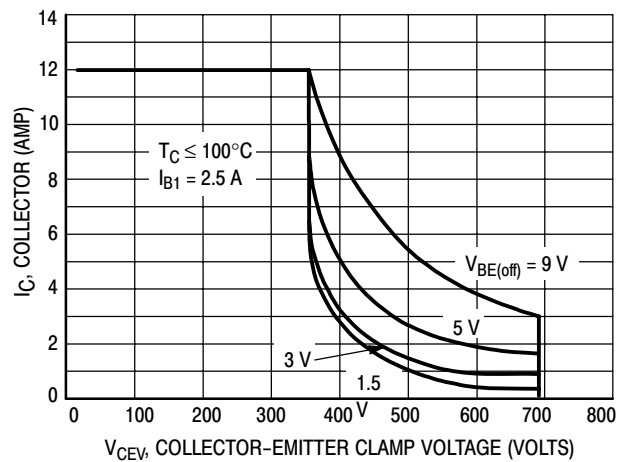
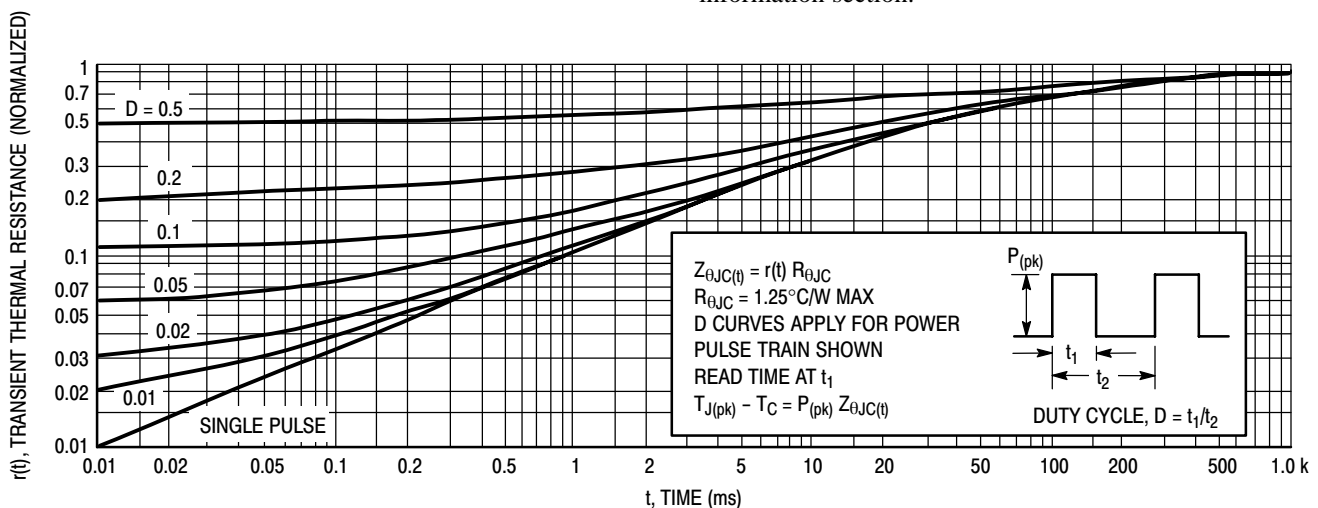

Figure 2. Reverse Bias Switching Safe Operating Area
Figure 4. Typical Thermal Response [$Z_{\theta JC}(t)$]
$T_{J(pk)}$ may be calculated from the data in Figure 4. At high case temperatures, thermal limitations will reduce the power that can be handled to values less than the limitations imposed by second breakdown. Use of reverse biased safe operating area data (Figure 2) is discussed in the applications information section.
For inductive loads, high voltage and current must be sustained simultaneously during turn-off, in most cases, with the base to emitter junction reverse biased. Under these conditions the collector voltage must be held to a safe level at or below a specific value of collector current. This can be accomplished by several means such as active clamping, RC snubbing, load line shaping, etc. The safe level for these devices is specified as a Reverse Bias Safe Operating Area (Figure 2) which represents voltage-current conditions that can be sustained during reverse biased turn-off. This rating is verified under clamped conditions so that the device is never subjected to an avalanche mode.
3. The base drive conditions are within the specified limits shown on the Reverse Bias SOA curve (Figure 2).